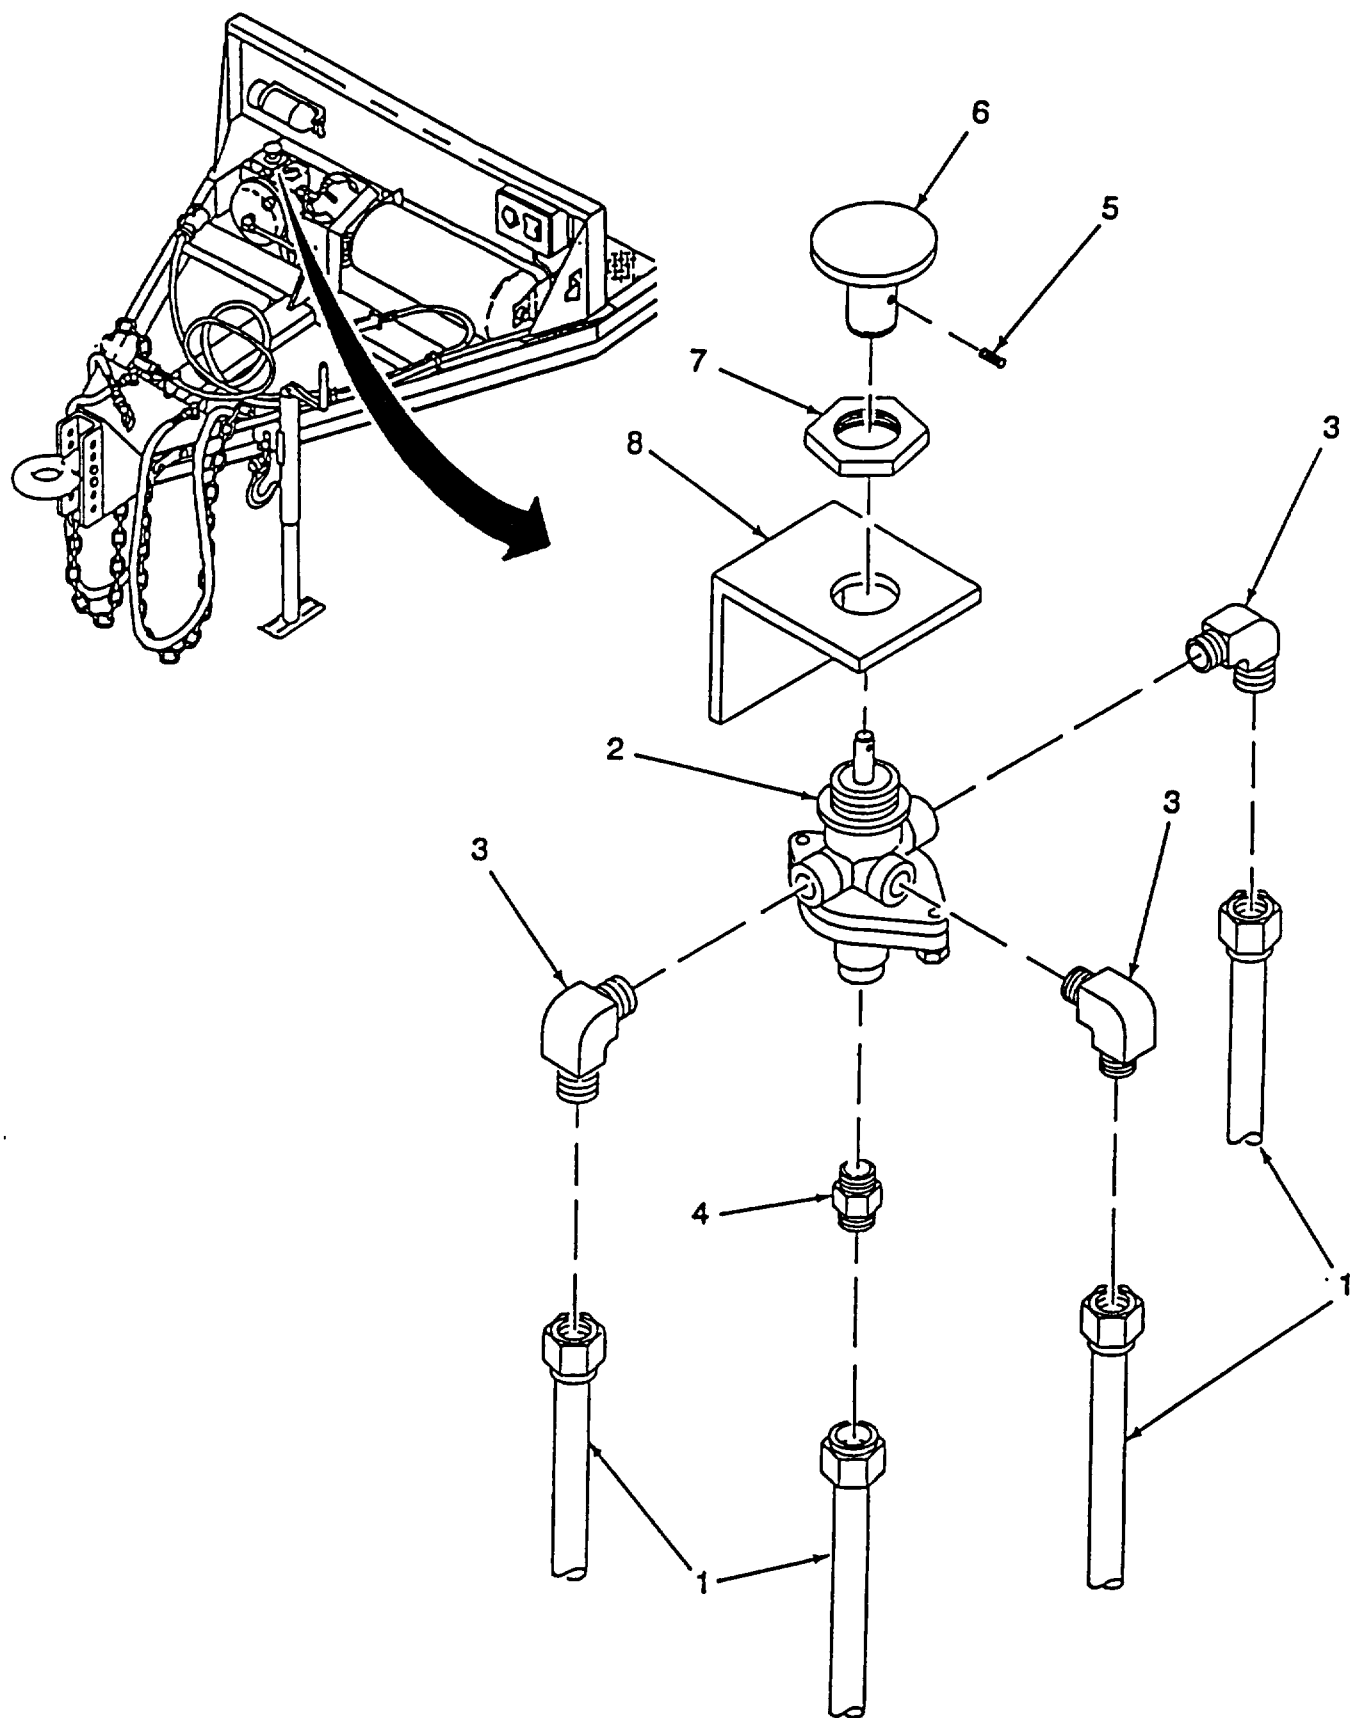

Figure 4-50. Control Valve
a. Removal. (Refer to Figure 4-50).
- (1) Completely vent trailer air brake system pressure by opening drain valve. (para. 4-51).
- (2) Tag and identify four air brake lines (1).